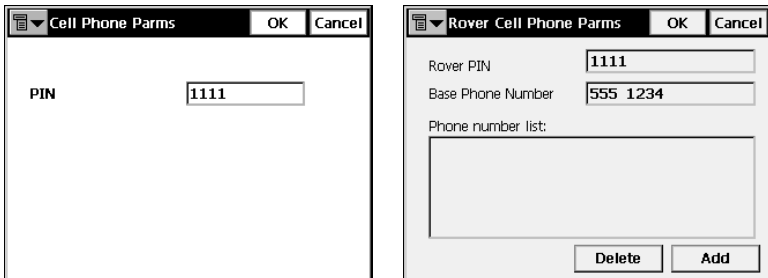

Figure 2-39. Set Base or Rover Cell Phone Parameters
- Press **Configure GSM** to display the appropriate Cell Phone parameters dialog box, and enter the following parameters for either the Base or Rover (Figure 2-39).